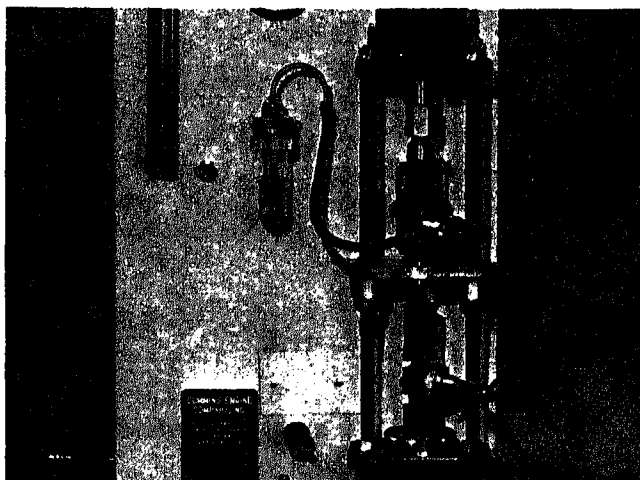

Fig. 6-1-37. Installing cylindrical injector in ST-990
1. Install ST-726 adapter to cylindrical injector. Fig. 6-1-37.